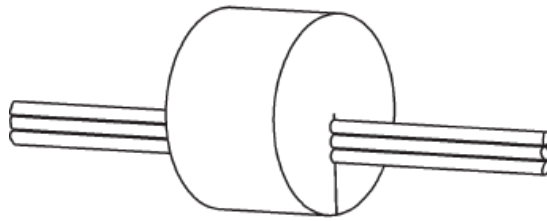

Fig. 5:
- Conduit – Included with the detector is a foam plug to seal the ½ inch (13mm) EMT. Place the wires into the plug as shown in Fig. 5 and then insert the plug into the conduit, sealing the conduit.